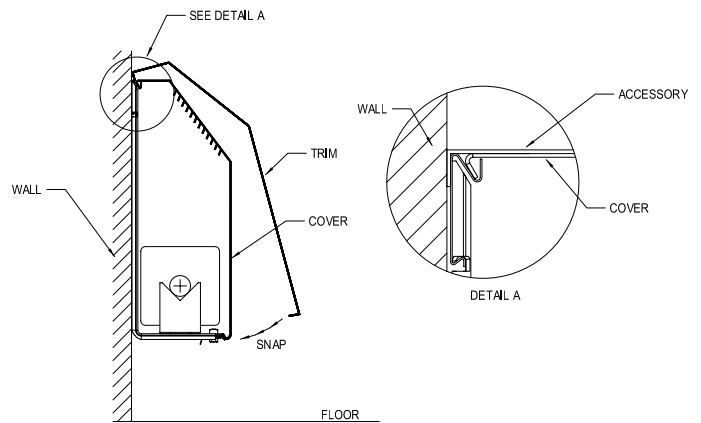

FIGURE W-8
- (8) Install accessories between the wall and wall channel at the top and around the cover at the bottom. (FIGURE W-8)